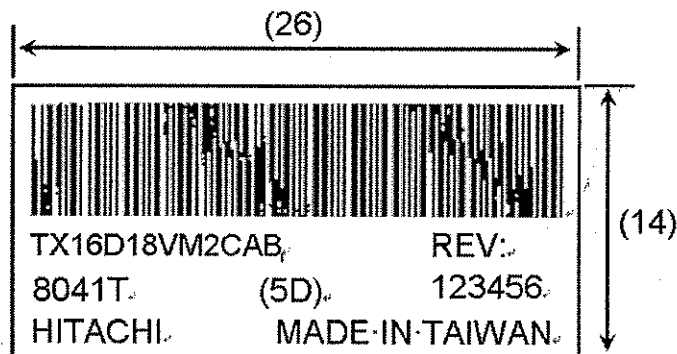

Fig 13.3
4) The location of the lot mark is on the back of the display shown in Fig. 13.3.